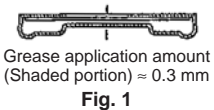

Fig. 1
- The dust seal band for replacement should be greased wholly as shown in figure 1.
- Note 1) Grease uniformly as the fig. 1. Use consistency No. 1 or No. 2 of the lithium soap grease (such as Mitsubishi Diamond grease multi purpose No. 2).